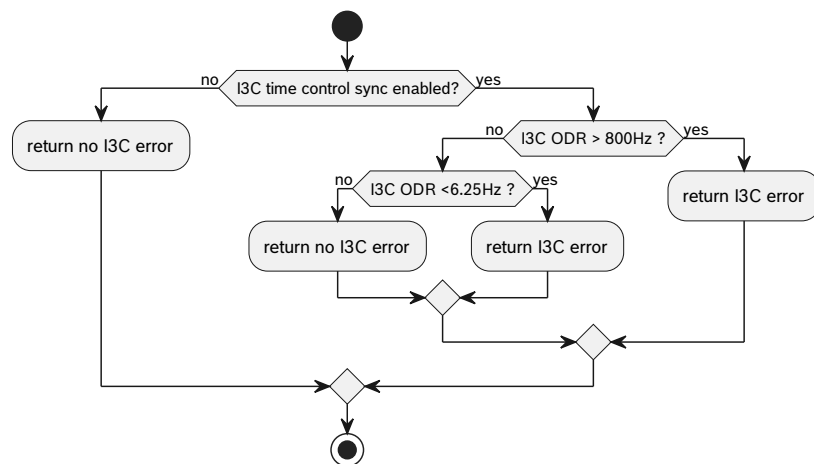

Figure 27: Conditions for I3C Sample Rate (ODR) Configuration Errors
**ODR Configuration Error** The synchronous mode feature will operate in the correct manner only when the user follows the constraints on the supported sample rates. The device checks continuously for matching values of sample rates. If the value for one of the signals acceleration, angular rate or temperature is not within the limits, the `i3c_error` bit is set. The conditions for return an I3C error for an invalid sample rate (ODR) is detailed in Figure 27.